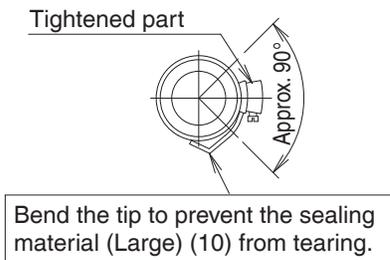

Fig. 16
- Do not tighten the metal clamp (2) with the torque more than the specified value. The drain hose (1), the socket or the metal clamp (2) may be damaged.
- Wrap vinyl tape around the end of the metal clamp (2) so that the sealing material (Large) (10) to be used at the next process may not be damaged with the clamp end or bend the tip of the metal clamp (2) inward as shown. (Refer to Fig. 16)